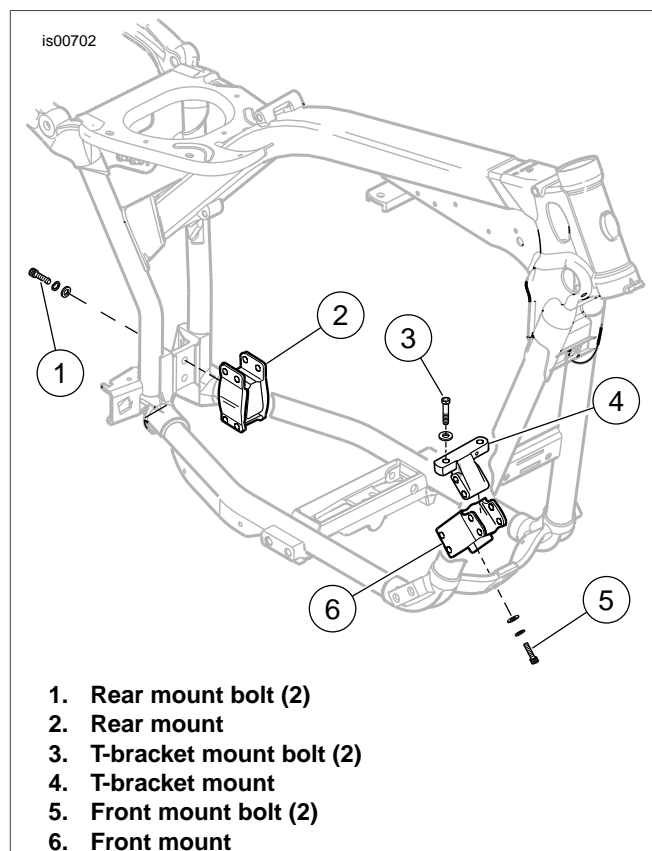

Figure 8. Vehicle Alignment
1. See Figure 8. Loosen the two front (5) and two rear (1) mount bolts.
5. See Figure 8. Loosen the two top bolts (3) of the T-bracket (4).